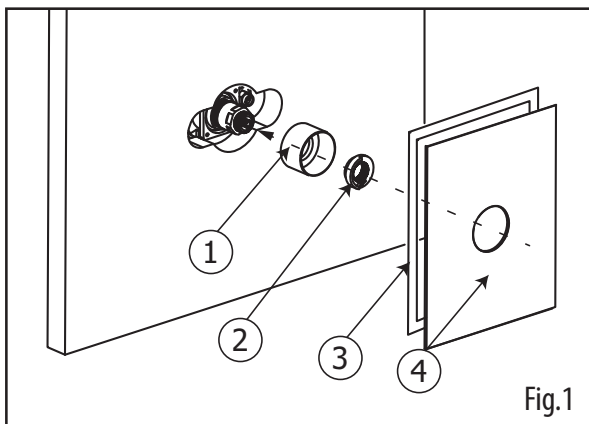

Fig.1
Before installing the trim (4), thread on the cylinder (1) to the thermo cartridge body (Fig.1). Then, insert the temperature limit stopper (3) into position as shown (Fig.2).